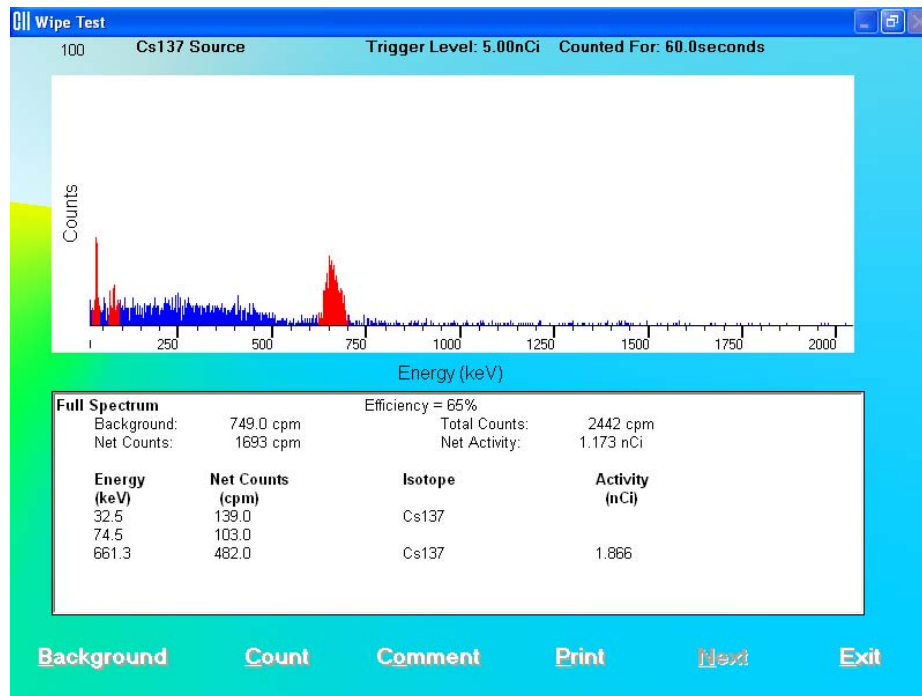

Figure 8-21
- Once measurements are accepted, the spectrum and the results are displayed similar to that shown in Figure 8-21.